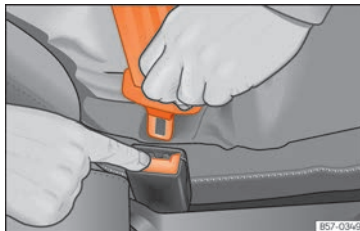

Fig. 15 Release the seat belt's buckle.
- Press the red button on the buckle » **Fig. 15.** The latch plate is released from the buckle.